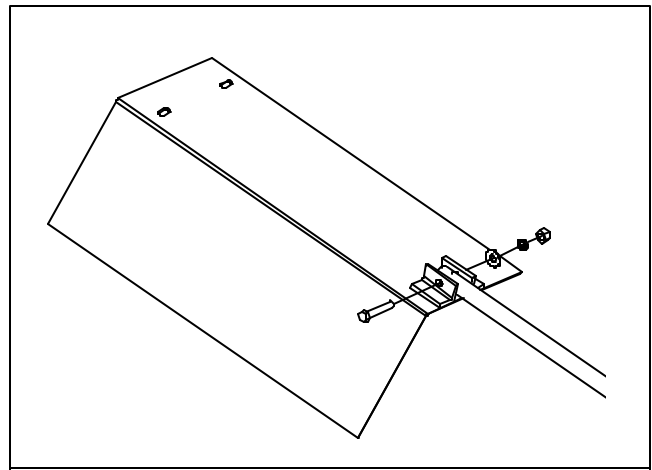

FIG. 8-A - 6" & 8" CENTER WELL GATE
3. Attach control gate to control rod with a 5/16" x 2" bolt, flat washer, lockwasher, and hex nut. (See Fig. 8-A)